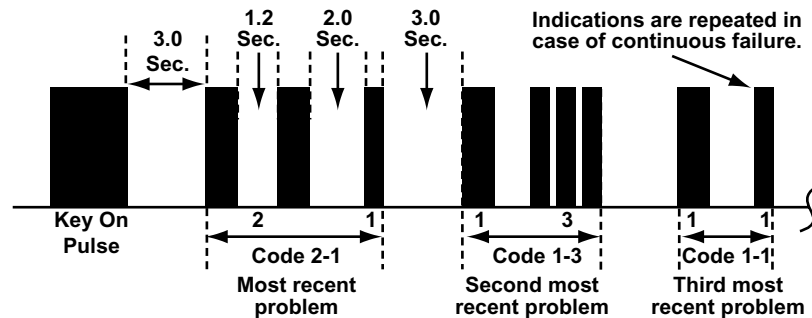

Figure 8-38 Honda SRS Code Type 06 - Continuous Failure, SRS indicator blinks like this
- Type 06 with a continuous failure, see Figure 8-38 and Table 8-13 on page 82